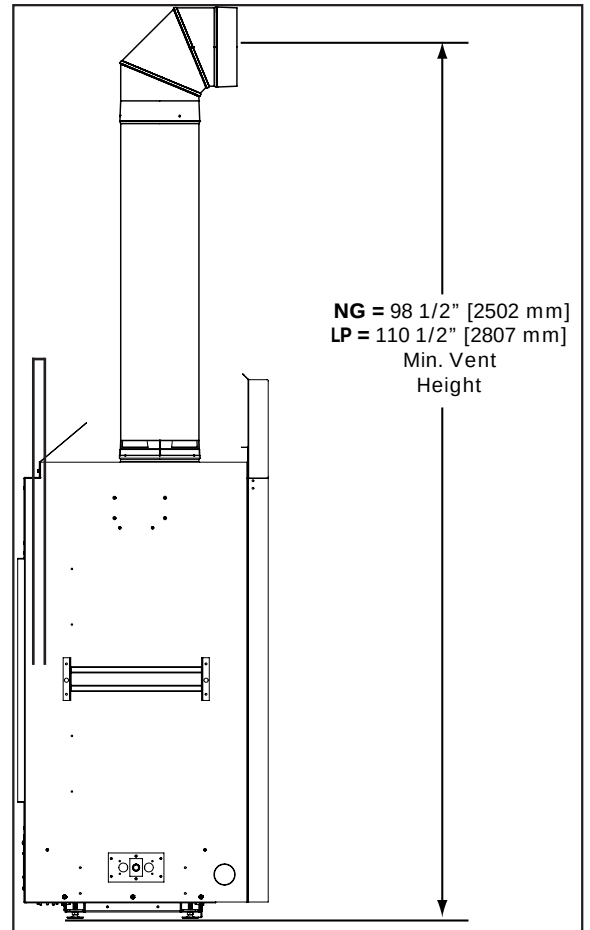

Figure 39: Minimum Venting
Minimum venting is shown in Figure 39. For Natural Gas (NG) the framing height to the center of the thimble is 98 1/2". Minimum venting must include a 48" vertical section and a 90 degree elbow which is then terminated horizontally.